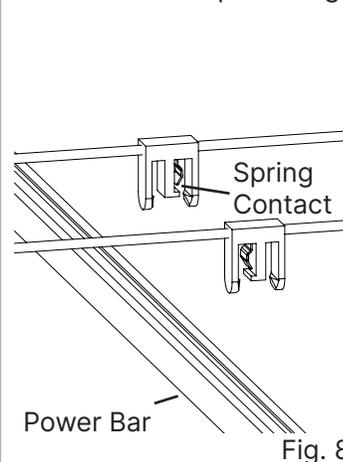
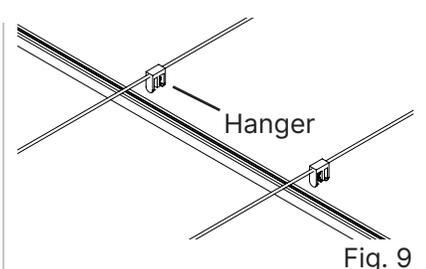
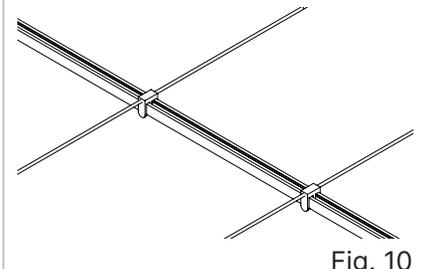

Fig. 8
Fig. 9
Fig. 10
1. Make sure **Spring Contact** of each **Hanger** opposes each other (Fig. 8).
2. Align **Hanger** with **Power Bar** (Fig. 9) and press up firmly on the bottom of the Power Bar, while pressing down on the top of the Hanger, until the Power Bar clicks into place (Fig. 10).
- Install the **Cylinder Light Engine** to the **Hub** by inserting the contacts on the Hub into the slots on the Light Engine (Fig. 8), then twisting the Light Engine to the ends of the slots (Fig. 9). **Note: Flip Hub Cover to change to single direction (Fig. 10).**